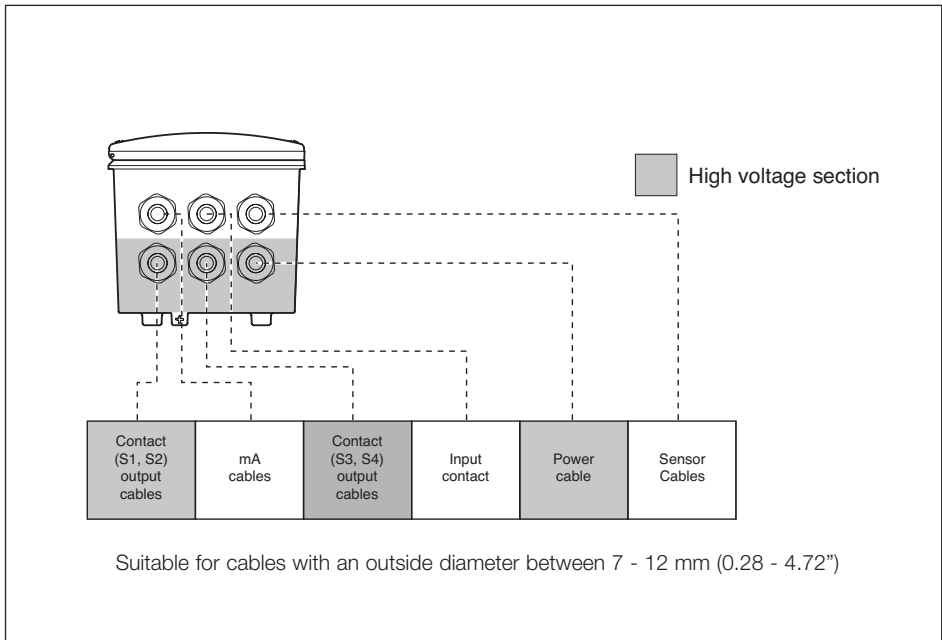

Figure 3-5. System configuration
7. Use the front three glands for analog output, sensor inputs, contact input and HART® wiring (see figure 3-5).